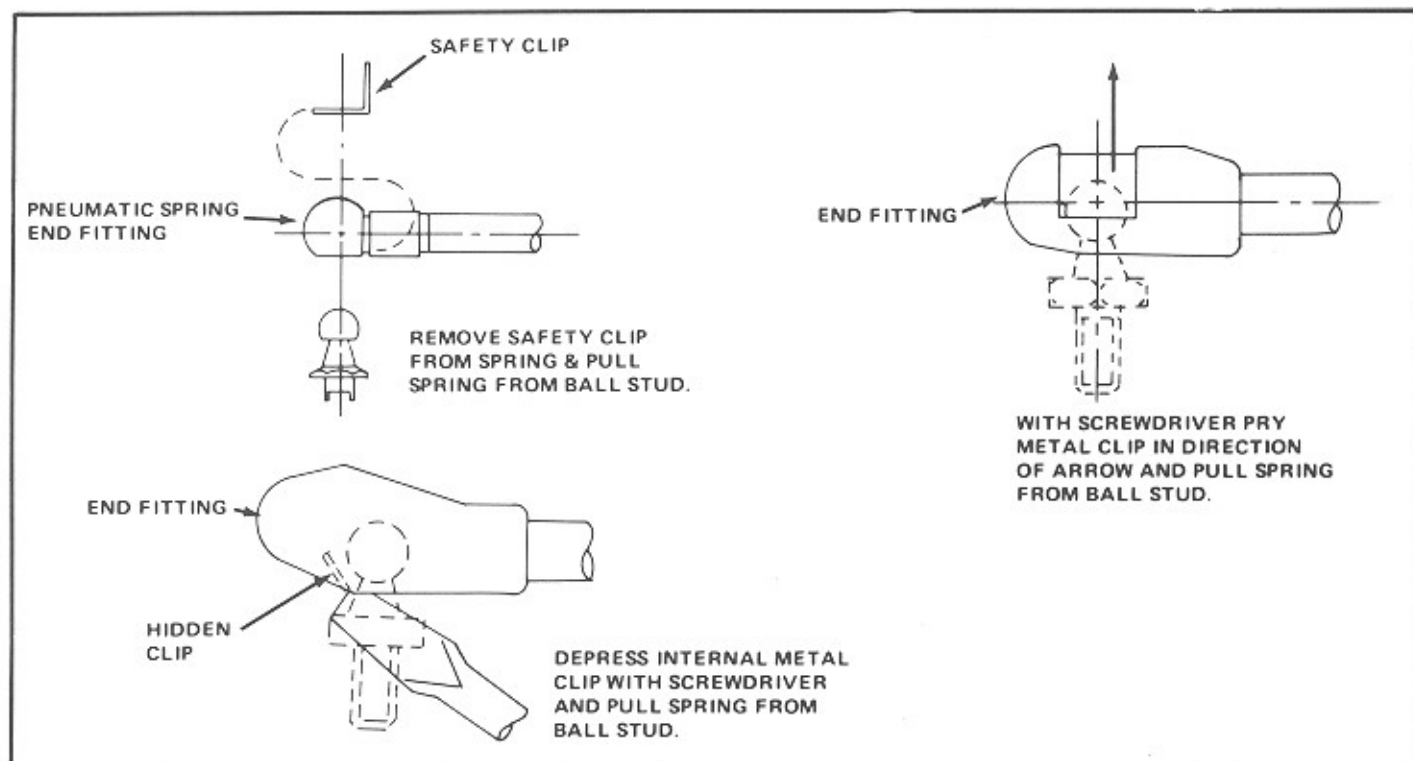

Figure 3-25. Door Spring Fittings
2. while another person keeps the door open, find the appropriate style spring end fitting in Figure 3-25.
3. Follow the example in Figure 3-25.